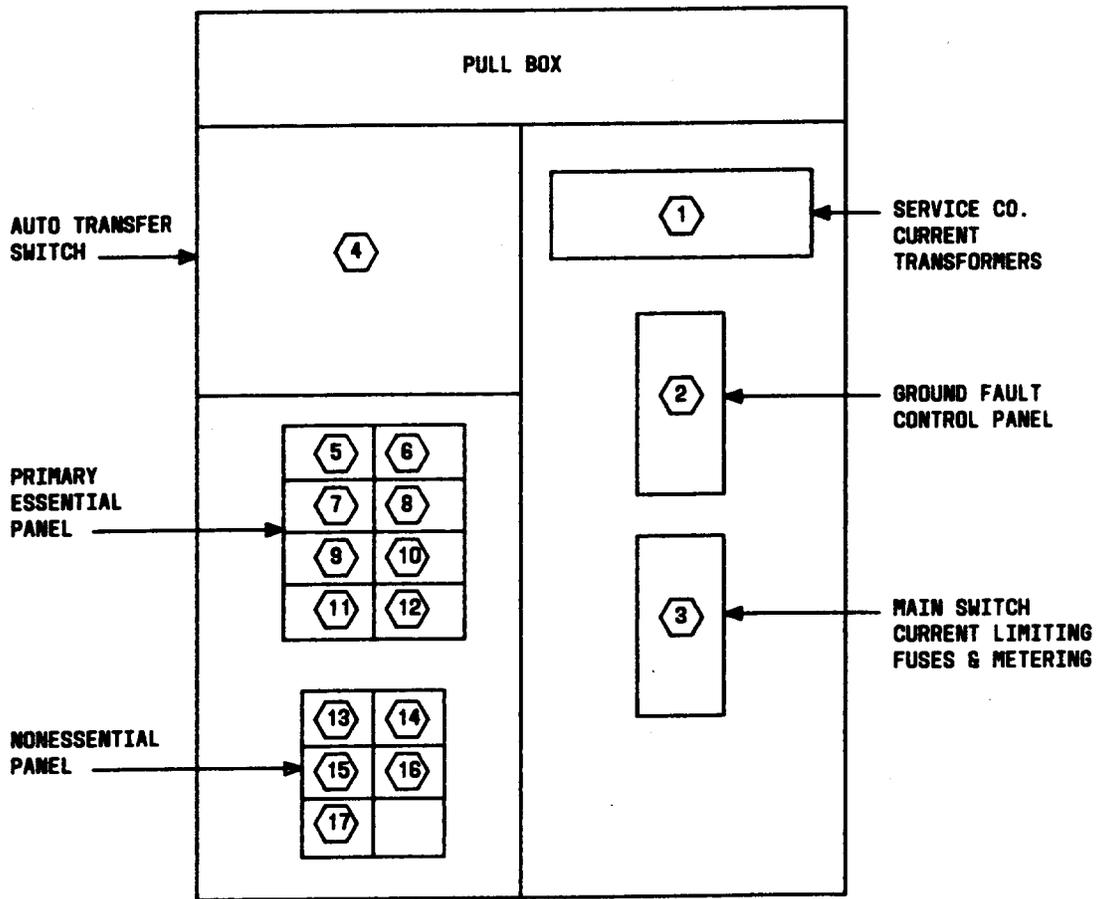

Fig. 1 — Main Switchboard Elevation
2.07 The essential and nonessential distribution sections (Fig. 1 and 2) should be sized for the particular building, allowing ample space for growth. The automatic transfer switch size (100, 150, or 225 amperes) will depend on the essential load and the standby generator size.
2.08 The switchboard will require two or three sections depending upon the sizes of the distribution panels (Fig. 1 and 2). The switchboard can be freestanding with front and rear access, wall-mounted, or made up of stock panelboards. A voltmeter should be included, but not an ammeter. For receptable and other low-voltage requirements, a combined transformer-panelboard is recommended.